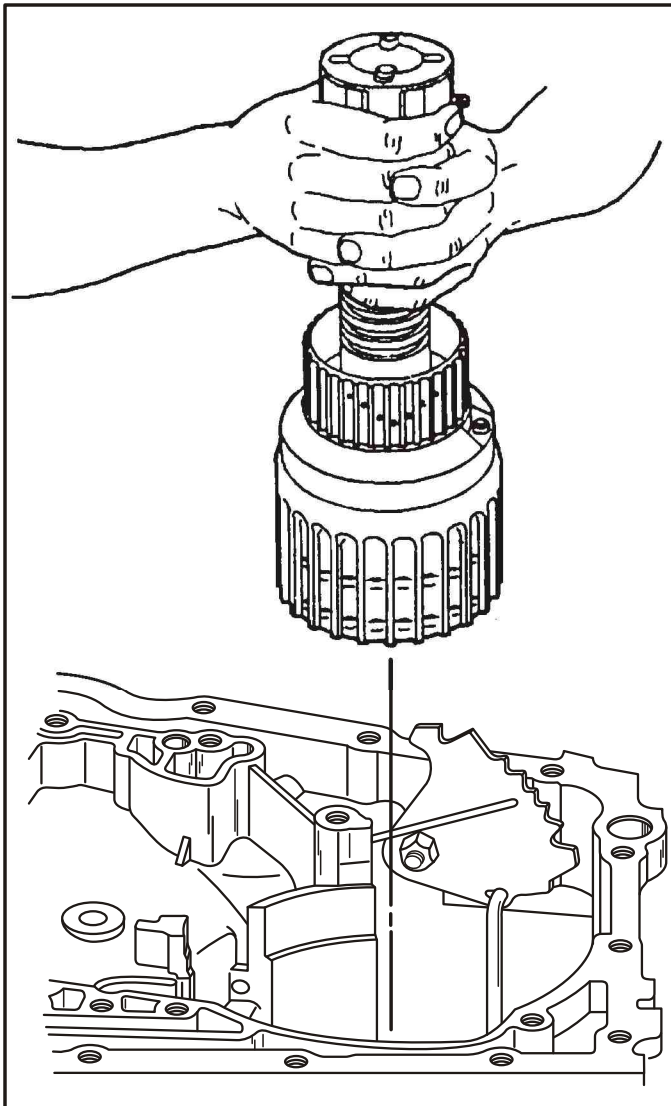

Figure 164
52. Install the entire assembly into the case while rotating to engage the sun gear into the input carrier, as shown in Figure 164.